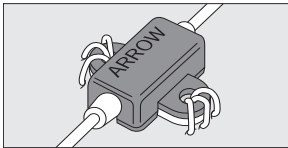

Figure 4
- Secure catheter clamp and fastener as a unit to patient by using either catheter stabilization device, stapling or suturing. Both catheter clamp and fastener need to be secured to reduce risk of catheter migration (refer to Figure 4).